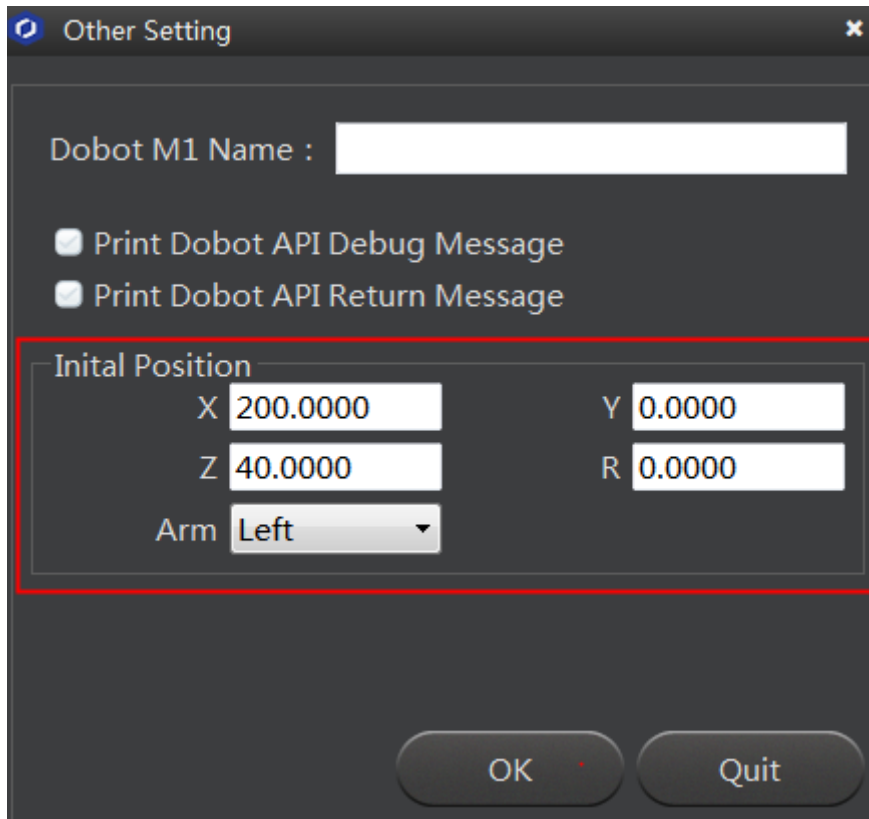

Figure 5.27 Set initial position
Step 2 Set Dobot M1's initial position on the **Initial Position** section of the **Other Setting** page, as shown in Figure 5.27.